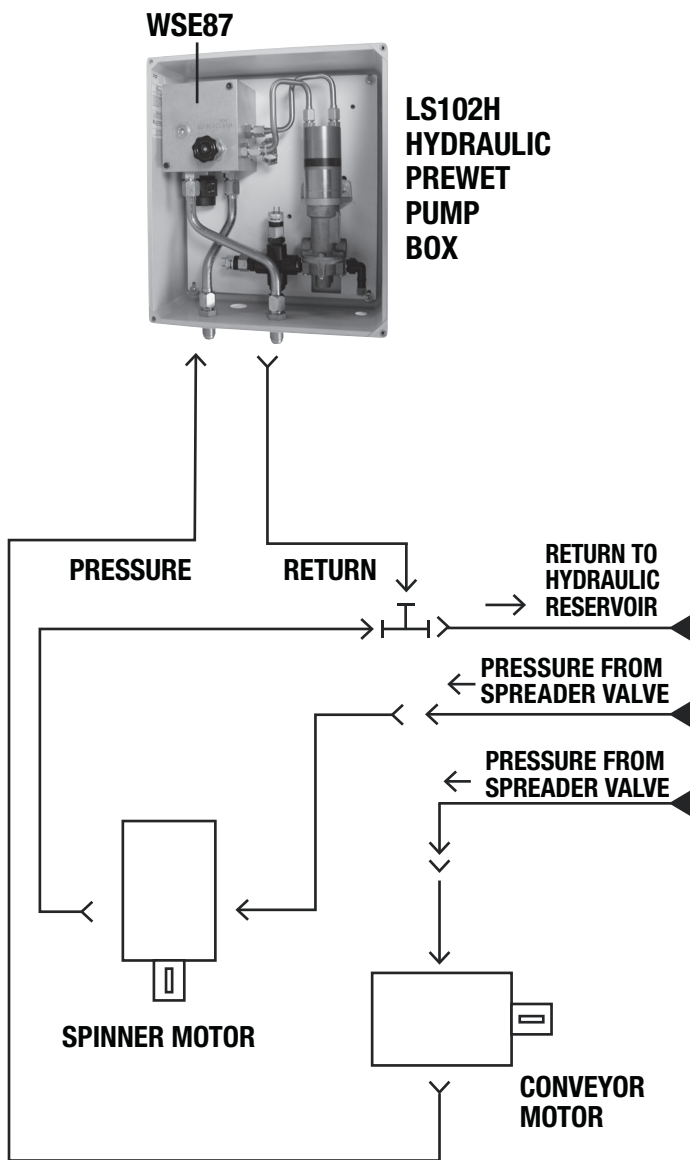

Fig. 3 - Prewet Plumbing Diagram
7. Plumb: Reservoir, ball valve, check valve, filter, pump enclosure and spray nozzles according to plumbing schematic, Fig. 3. Use only Loctite™ #30534 or Permatex™ #2 thread sealants. **DO NOT USE TEFLON TAPE**